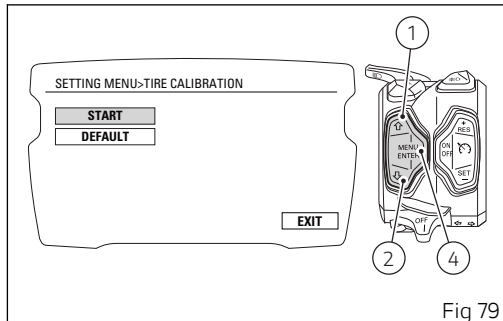

Fig 79
As you enter this function, the instrument panel displays the following indications (Fig 79):
To reset to the default settings, use buttons (1) and (2) to select "DEFAULT" (Fig 79) and press button (4). Then, the instrument panel shows "DEFAULT PLEASE WAIT..." (Fig 85) and after a while "DEFAULT OK" (Fig 86) for 2 seconds, then followed by the previous screen.